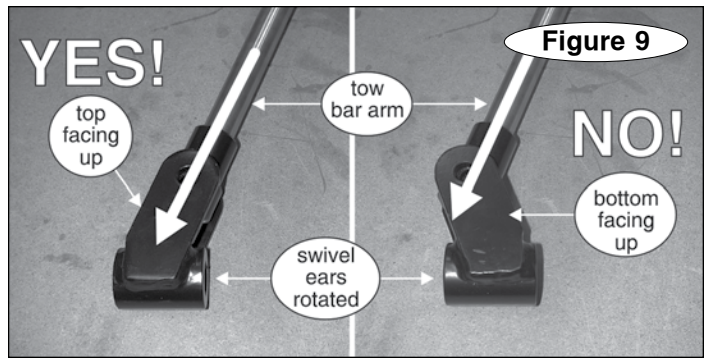

Figure 9
*Note: the swivel ears (Figure 9) must be attached with the top facing up. To distinguish between the top and bottom, spread the tow bar arms about 28 inches apart. Place a swivel ear over a round nut and rotate it to the left or the right, to the approximate position it would be in when towing. When the top is facing up, the swivel ear will be at the same angle as the tow bar arm.*